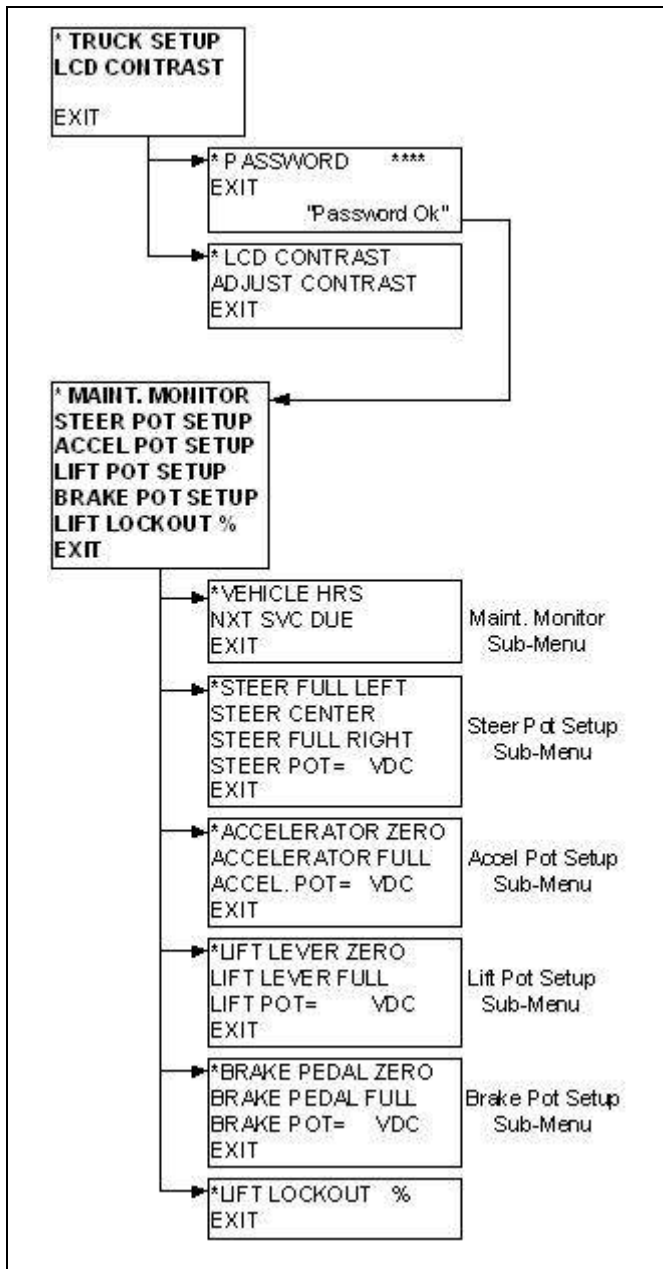

Figure 4-2: Truck Calibration Flow Chart
Follow the flow chart in Figure 4-2 on page 4-3
3. To begin the Truck Setup, go back to the main first screen shown in Figure 4-2 on page 4-3, move the asterisk to **TRUCK SETUP** and hold the ENTER button.